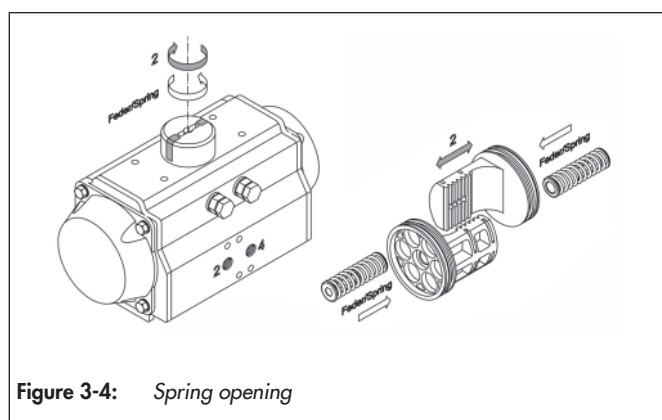
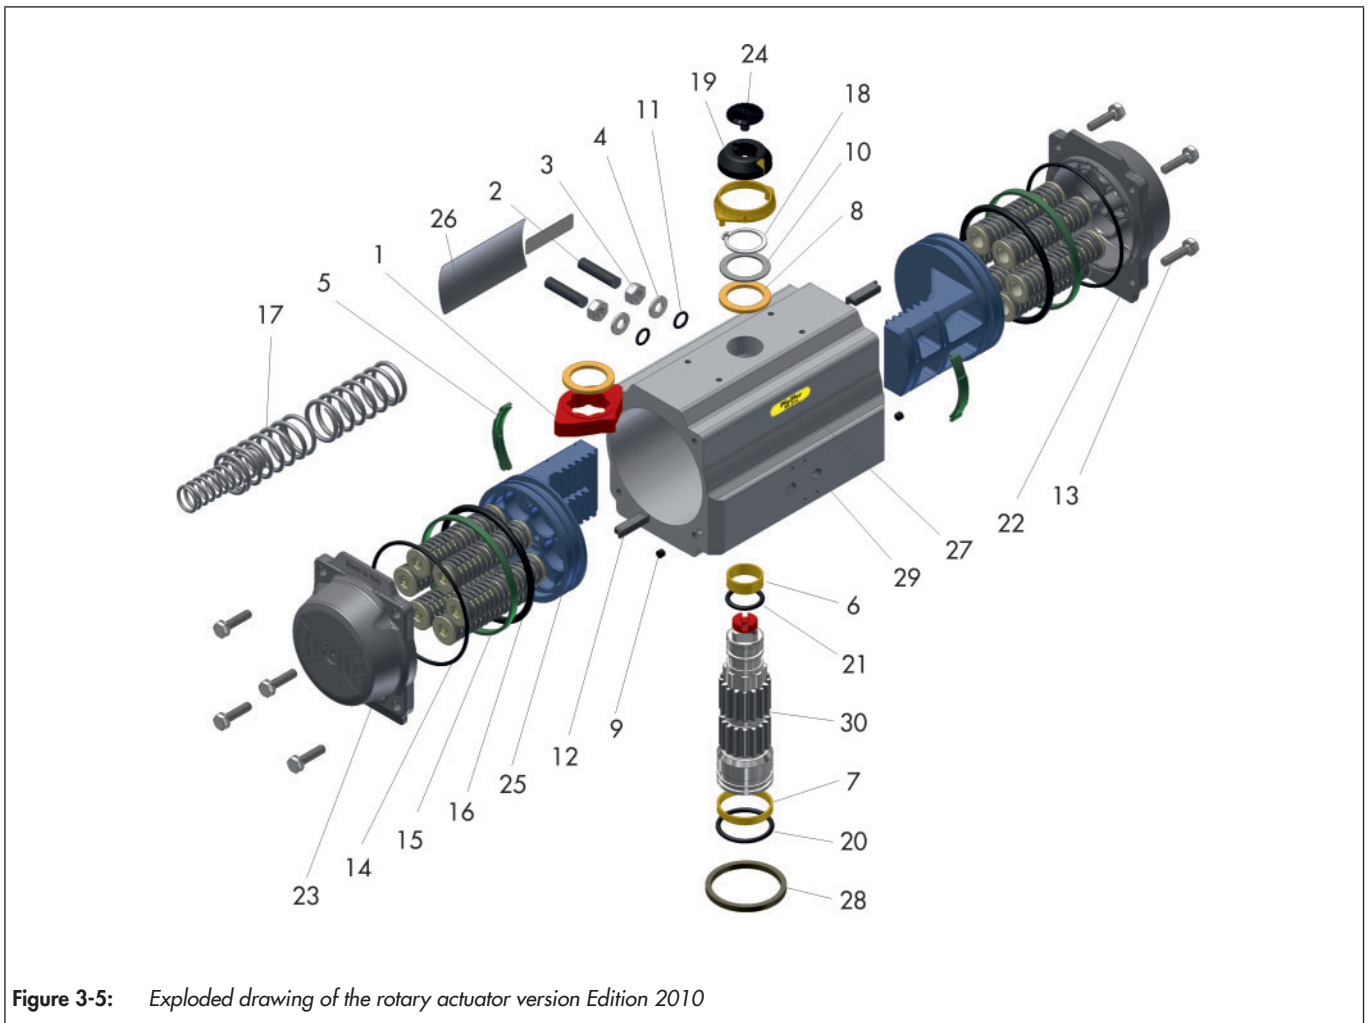
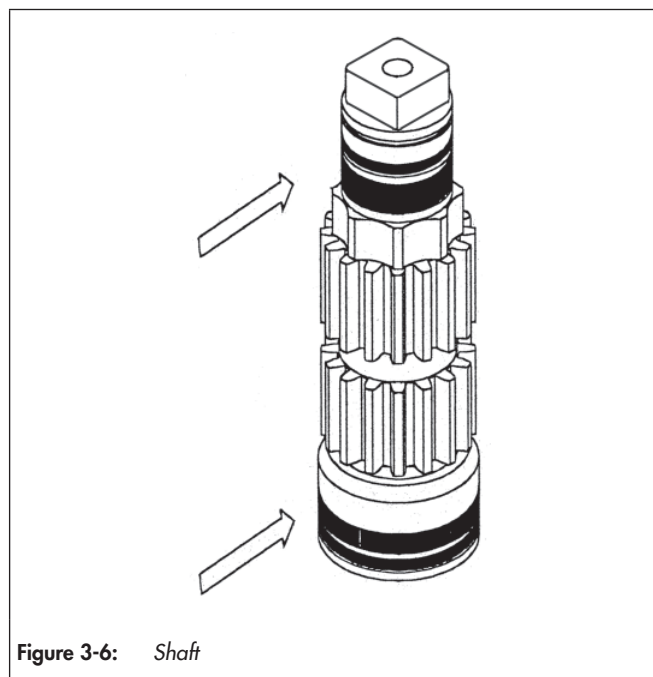

Figure 3-4: Spring opening
Figure 3-5: Exploded drawing of the rotary actuator version Edition 2010
Figure 3-6: Shaft
(see Figure 3-3, Figure 3-4, Figure 3-5 and Figure 3-6)
- ⇒ Grease the outside of the shaft surface at the top and bottom, see Figure 3-4.
- ⇒ Guide the shaft (30) partially into the housing (29), see Figure 3-5.
- ⇒ Fit the cam (1) in the desired position in reference to the top and bottom position of the shaft, as well as the direction of rotation of the actuator, see Figure 3-6.